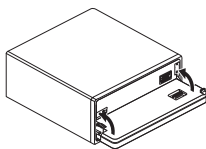

Fig. 12
3. Flip the holders into upright positions. (Fig. 12)